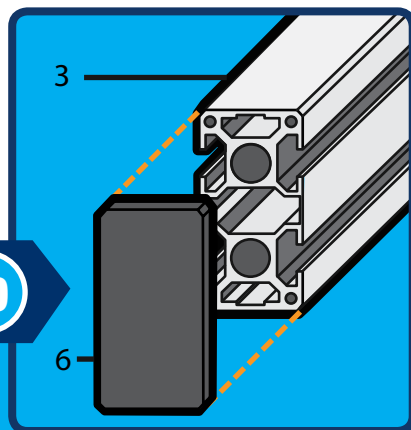

Fig. 38
- 4 combi profiles, grey 440 mm long (5.2), (Fig. 38)
- 10 anchor pieces, straight (7)
- 10 cross pieces with thread insert (8)
- 4 protective caps 40x80mm, black (6)